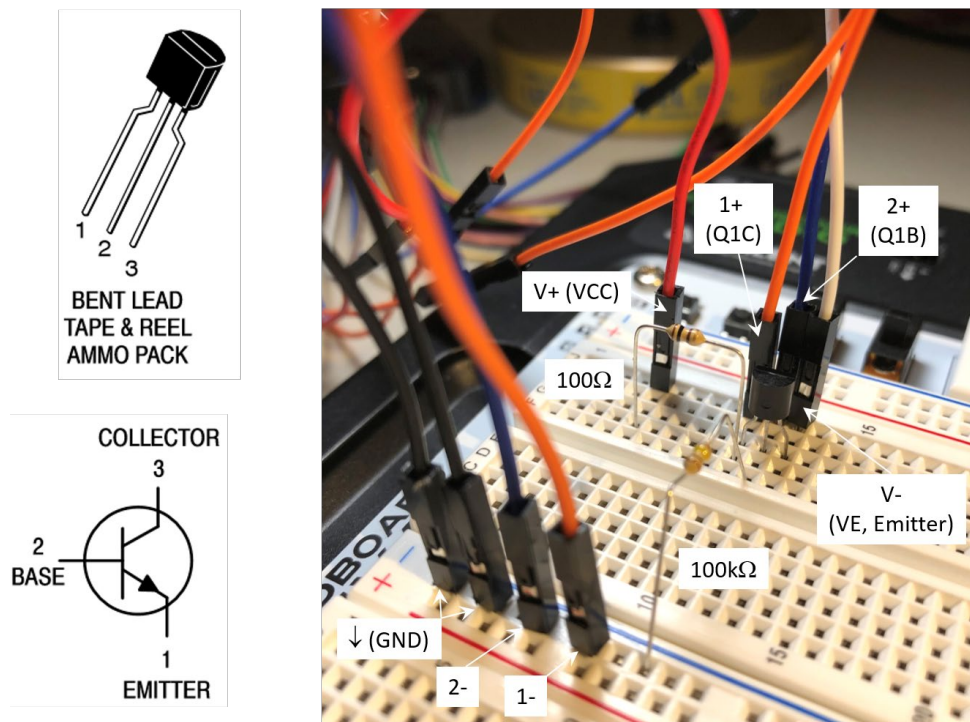

Fig. 2 Experimental setup for the DC characterization of an NPN-BJT 2N3904
- 1.5 As shown in Fig. 2, prepare the circuit using the same V_E and V_{CC} settings in Steps 1.2 to 1.4.